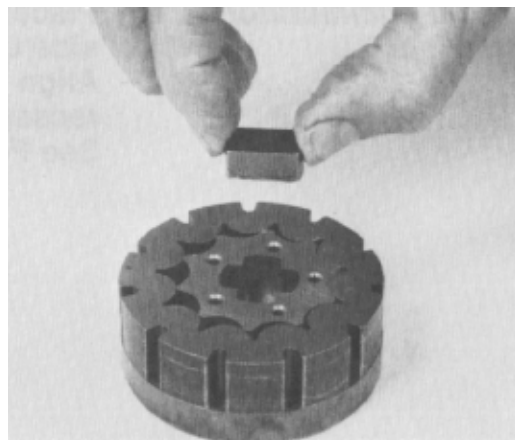

Figure 92
12. Apply a small amount of clean multi-purpose grease to the spacer and insert it into the drive slot in the rotor (Fig. 92). The grease will aid in retaining the spacer during other assembly procedures.